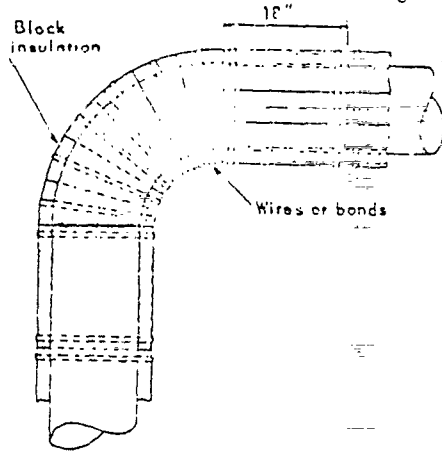

FIGURE 8
7.2 Welded fittings and valves 2 inches and longer shall be insulated with block or pipe insulation at least equal in thickness and in same number of layers as adjacent pipe insulation. See Figure 8.